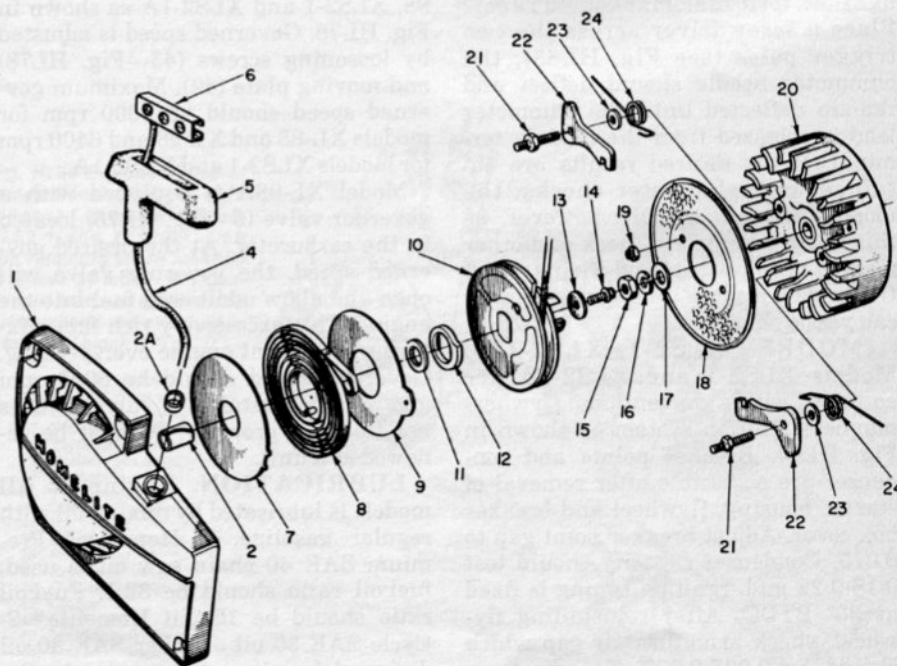

Fig. HL87—Exploded view of typical rewind starter assembly and engine flywheel.
CLUTCH. All models except models XLS2-1 and XLS2-1A are equipped with a centrifugal clutch. To remove the clutch assembly, first remove the blade and arm assembly (see Fig. HL87 or HL88). The clutch bearing inner race (27) unscrews counterclockwise (left-hand threads). Remove inner race with impact wrench, or if impact wrench is not available, use a 3/4-inch socket wrench and strike wrench handle a sharp blow to loosen threads.
REWIND STARTER. Refer to Fig. HL87 for exploded view of rewind starter. To disassemble starter after removing housing and starter assembly from engine, proceed as follows:
Check all starter parts for wear or other damage and renew as necessary. Rope bushing (2A) in housing should be renewed if rope notch is worn in bushing. When reassembling starter, lubricate starter post lightly and install spring without lubrication. Refer to exploded view in Fig. HL87 for reassembly guide. Pre-wind the spring 2 to 4 turns.